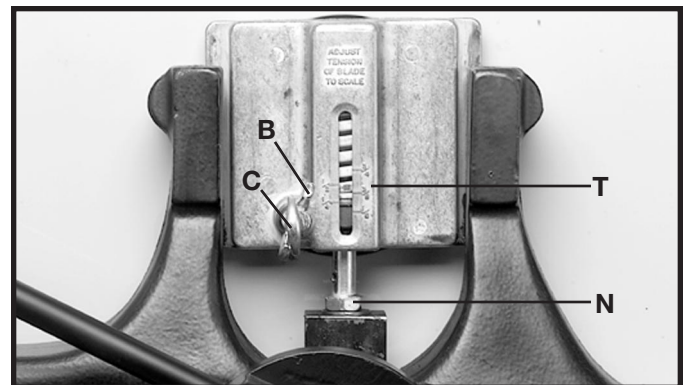
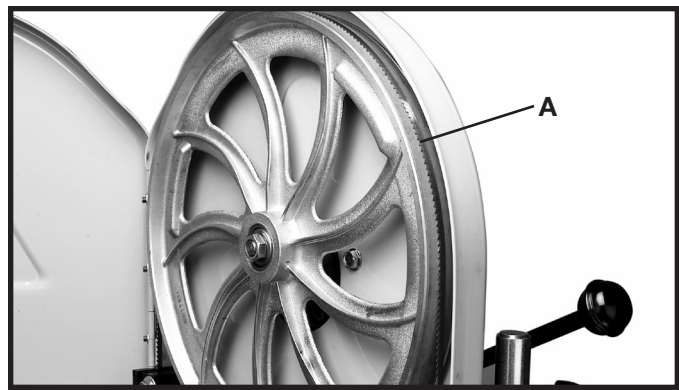

Fig. 51
Fig. 52
6. The band saw blade tension can be fine tuned by turning adjustment nut (N) Fig. 51, while the blade is tensioned.
7. A series of graduations is located on the back of the upper wheel slide bracket (T) Fig. 51. These graduations indicate the proper tension for various widths of blades.
After applying tension to the blade, rotate the upper wheel slowly forward by hand and observe the blade's movement. The blade (A) Fig. 52 should travel in the center of the upper tire. If the blade creeps toward the front edge, loosen the wing nut (B) Fig. 51, and turn the thumb screw (C) clockwise. This action draws the blade toward the center of the tire. If the blade creeps toward the back edge, turn the thumb screw in the opposite direction. Adjust the thumb screw (C) Fig. 51 only a fraction of a turn each time.
After the blade is tracking in the center of the tires, tighten the wing nut (B) Fig. 51.